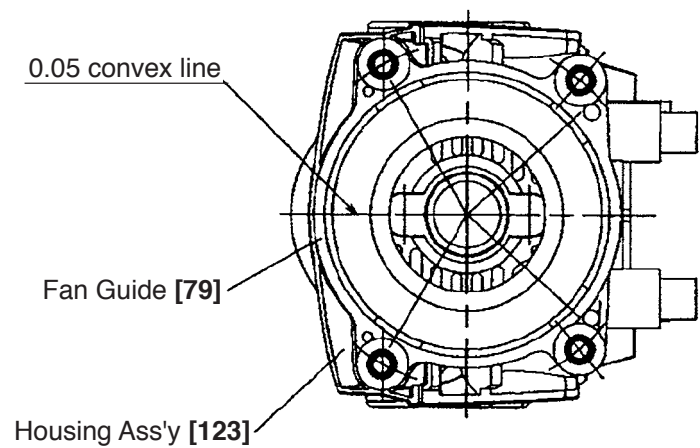

**Fig. 23**
Press-fit the Retainer Sleeve [17] into the Ball Bearing 6007DDUAV2S [14]. Secure it with the Retaining Ring D35 [13]. Mount the Second Hammer [20], Damper Washer [21], Damper [22] and Damper Holder [23] to the Retainer Sleeve [17]. Mount the Damper Washer [21] aligning the R surface of the inside diameter with the R surface of the Second Hammer [20]. Insert the Striker [24] into the Cylinder [26] then insert the Cylinder [26] into the Retainer Sleeve [17]. Secure the Cylinder [26] and the Retainer Sleeve [17] with the four Needle Pins D6 x 6 [18] and cover it with Spring Holder (B) [28]. Mount the Bering Washer [15], Lock Spring [27], Lock Sleeve [29], Clutch [31] and Bevel Gear [32] to the Cylinder [26]. Mesh the claw of the Lock Sleeve [29] with the claw of the Clutch [31]. Insert the retainer sleeve assembly into the Cylinder Crank Case [46] aligning the spline of the Lock Sleeve [29] with the spline groove at the inner circumference of the Cylinder Crank Case [46]. If the slip clutch assembly and Lever Shaft [88] are mounted in the Cylinder Crank Case [46] first, the Bevel Gear [32] will be an obstacle to reassembly. Before mounting the slip clutch assembly and the Lever Shaft [88], mount the retainer sleeve assembly to the Cylinder Crank Case [46] (Fig. 23).